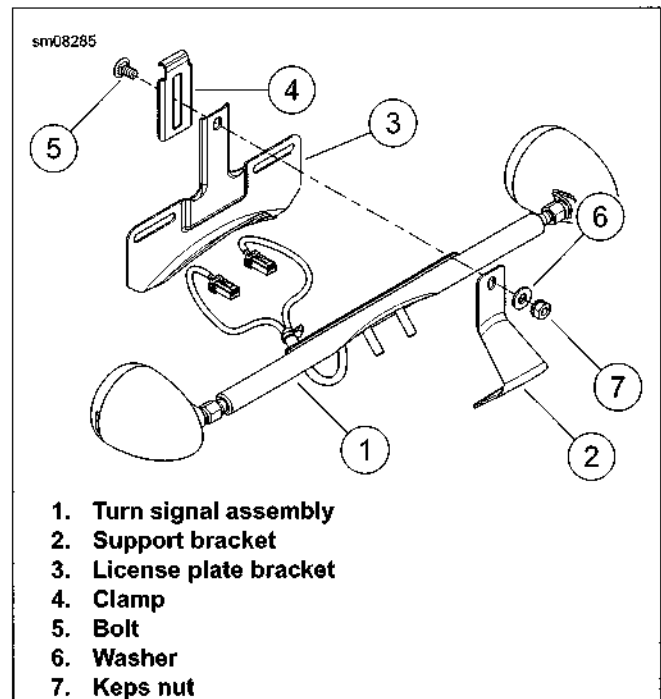

Figure 2-155. License Plate Bracket: XL 1200T
1. See Figure 2-155. Assemble the turn signal assembly (1), support bracket (2), license plate bracket (3) with the license plate clamp (4).
2. Install the clamp bolt (5), washer (6) and nut (7). Hand tighten.